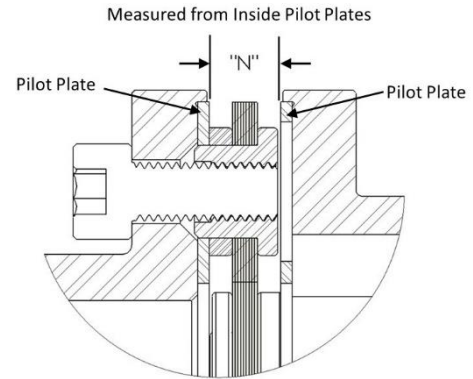

Figure 3 – Disc Gap
- c) The minimum and maximum values for dimension "N" shown in Figure 3 are given in Table 3. These dimensions are recommended for initial installation. Additional capacity is available to compensate for any application driven thermal and structural equipment movement. Maximum axial capacity is also shown in Table 3.
- l) As a guide, measure the distance between flanges known as dimension "N" shown in Figure 3 and given in Table 3.